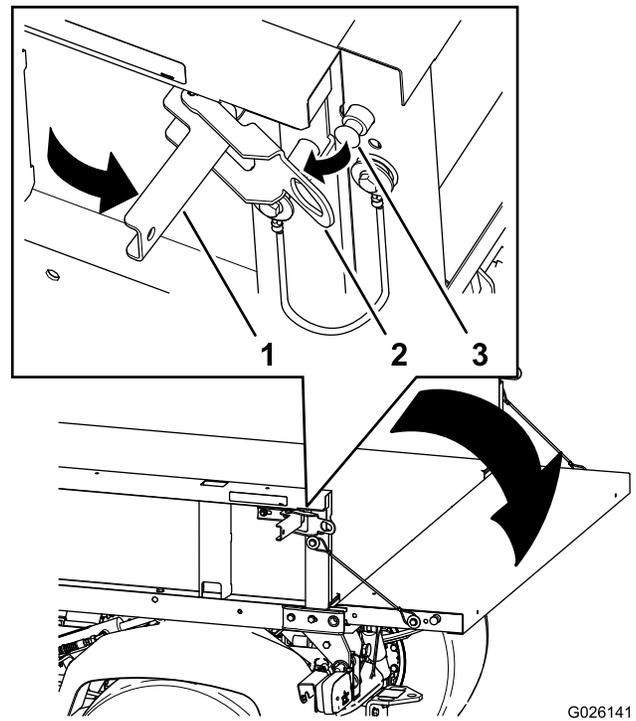

Figure 19
2. Open the latches on the left and right side of the cargo box (Figure 19) and lower the tailgate.